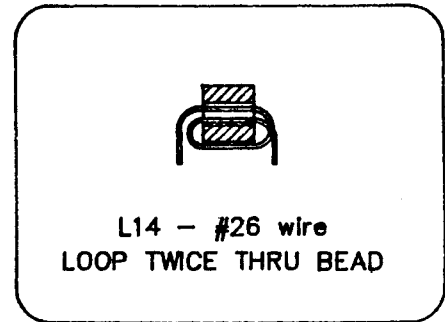

FIGURE 5
- Form L14 around the ferrite bead as shown in the coil drawings page 7, fig. 5. Be sure to pull the loop snug on the ferrite bead.